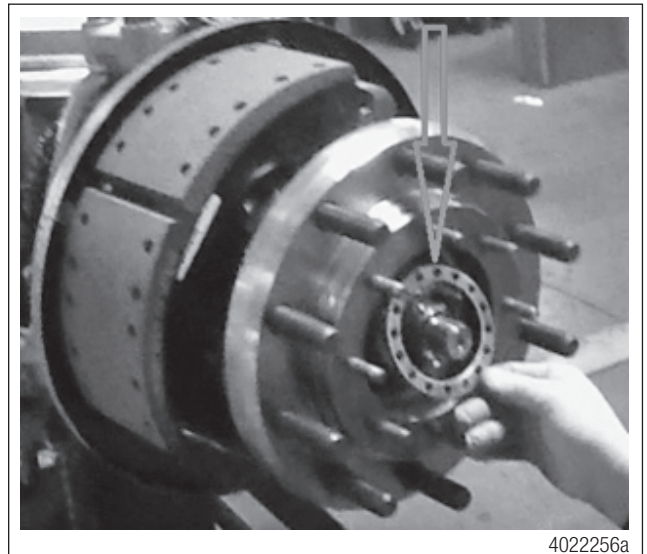

Figure 28
6. Install the lock washer over the nut. If necessary, back off the adjusting nut just enough to allow the dowel pin to engage in the closest hole in the lock washer. Figure 28.